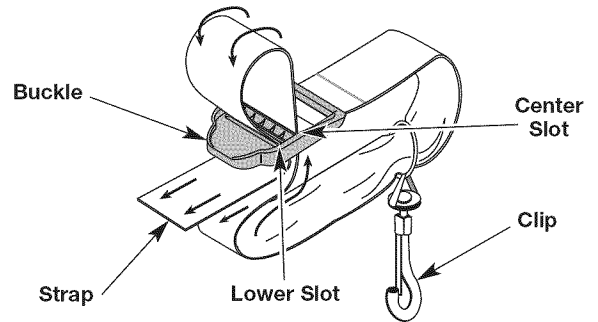

Fig. 3
1. Push the strap up through the center slot in the buckle (Fig. 3).
2. Bend the strap over and push it down through the lower slot in the buckle (Fig. 3).